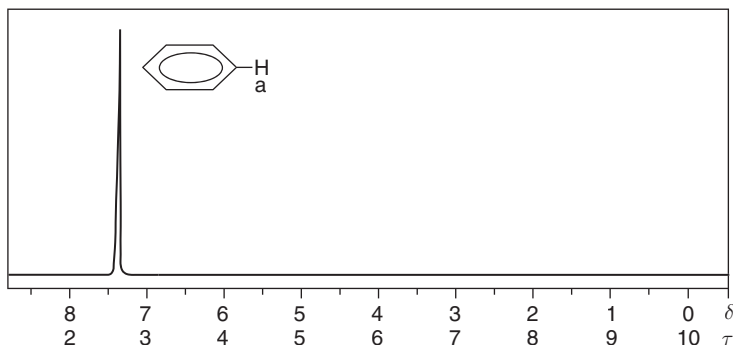

Figure 40 NMR spectrum of benzene.
4. **Benzene:** The spectrum (Figure 40) shows only one peak at δ 7.26 because all protons on benzene ring are magnetically equivalent.